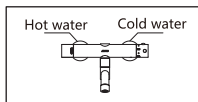

Figure 2
- 4.Be careful when connecting the faucet to the cold and hot water pipes, and do not connect them reversely. The left side is connected to hot water and the right side is connected to cold water. (Figure 2)